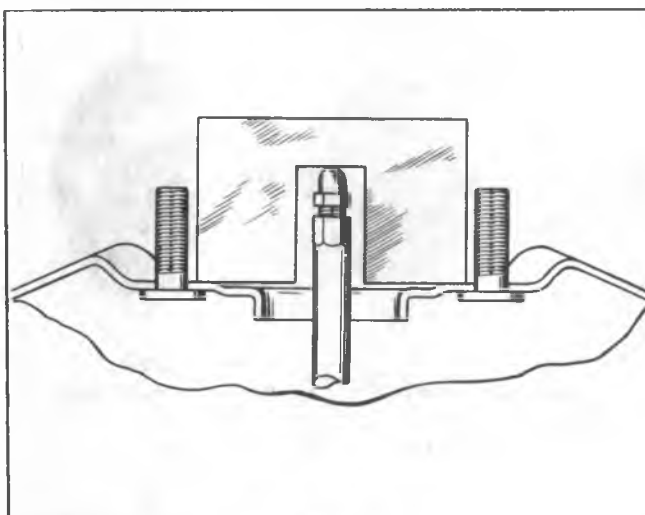

Fig. 8B—Adjustment
15. Place Tool J-7723-01 over the push rod so that it fits between studs on front shell (fig. 8B). Gauge should be parallel to studs and resting on surface of front shell. Cutout portion of gauge should just match height of push rod. Any variation may be compensated for by turning adjusting screw.